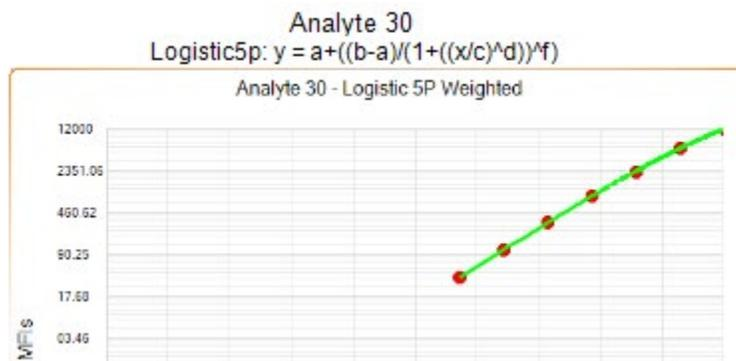

Figure 1. Linear Shape; All Points Touched by the Standard Curve Line
- All points are touched by the line; see the example shown in figure 1